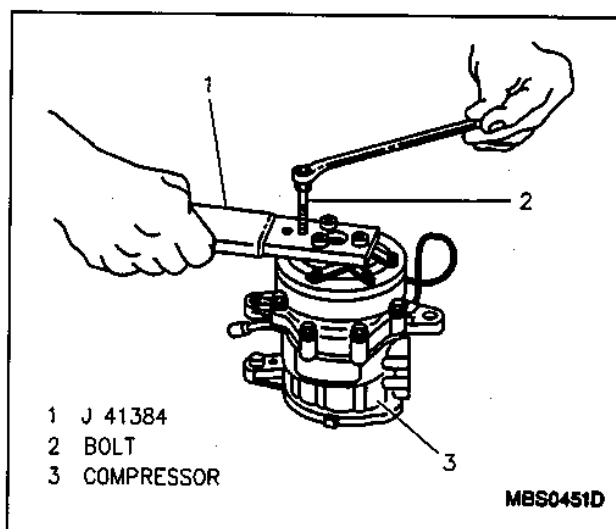

Figure 3—Removing Pressure Plate from Compressor
3. Pressure plate from compressor drive shaft, using tool J 41384 (Figure 3).